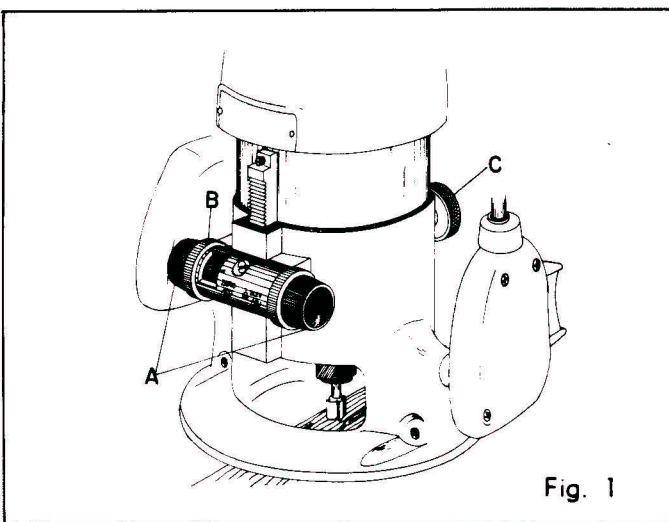

Fig. 1
**TO ADJUST FOR DEPTH OF CUT—IMPORTANT—BE SURE POWER CORD IS DISCONNECTED FROM POWER SUPPLY.** (See Fig. 1) Place the router on a flat surface and loosen lock knob (C). Turn height adjusting knob (A) until tip of router bit just touches the surface. Turn indicator Knob (B) to "O". Position router so that the bit can be projected below the base for desired setting. Now adjust to desired depth of cut by turning height adjusting knob slightly past the desired setting, then returning to the desired setting. This will insure a more accurate depth-of-cut adjustment. Tighten lock knob.